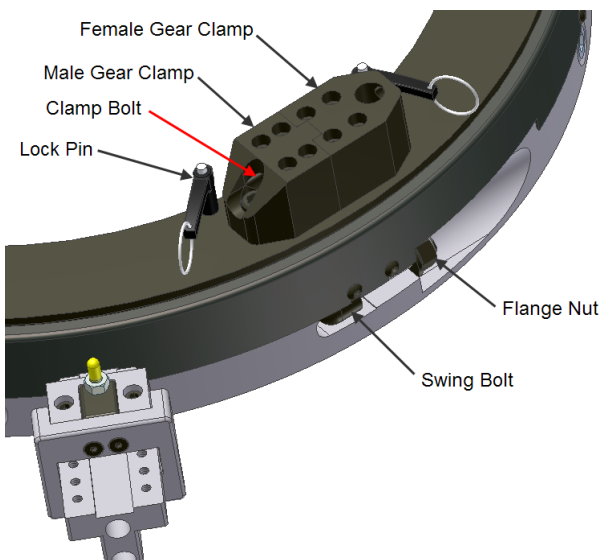

Figure 3
3. Loosen the 2 swing bolt flange nuts in the housing and swing the bolts out of the pockets. Unscrew the 2 clamp bolts on the gear halves and separate the Clamshell halves by pulling them straight apart (see Fig. 3).